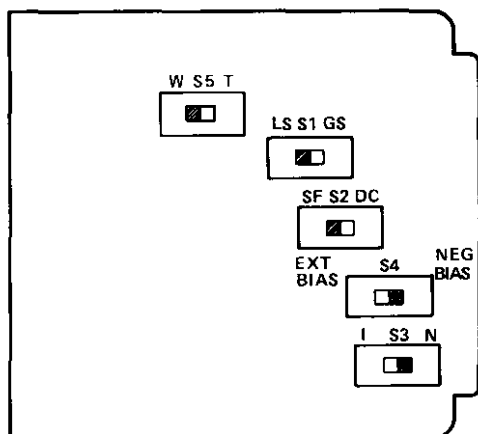

figure 6. 6103 option switch locations
3.06 Five option switches on the 6103 must be set before the module is placed into service. Locations of these switches on the module's printed circuit board are shown in figure 6. Instructions for setting the five switches follow in paragraphs 3.07 through 3.11.